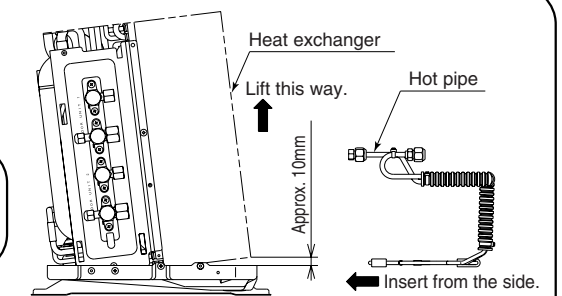
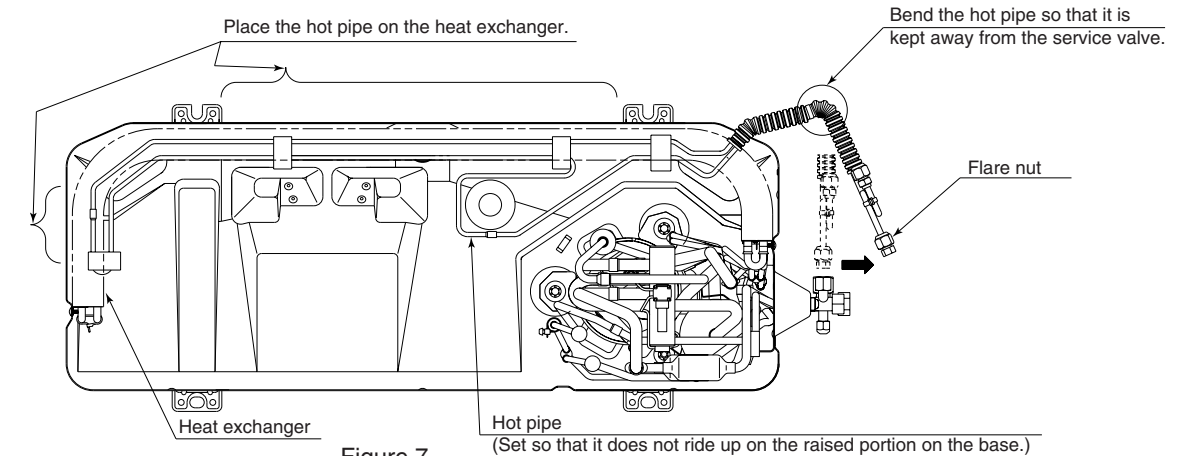

Figure 6
Figure 7
7. Lift up the heat exchanger as shown in figure 6, and create a gap of approximately 10 mm between the base and the lower surface of the heat exchanger. Then insert the hot pipe into the top of the base from the gap, and secure as shown in figure 7.
8. Return the heat exchanger and valve plate to the original position, and refasten the screws (3 pcs.) you had removed earlier to the base. Then, bend the hot pipe (Flare nut side) as shown in figure 7.